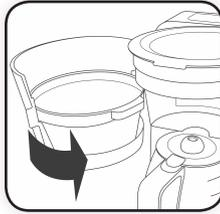

Figure 16
- 8 Close the Front Loading Brew Basket door. (Figure 16) **CAUTION:** Do not open until the brew cycle is complete and coffeemaker is cooled.